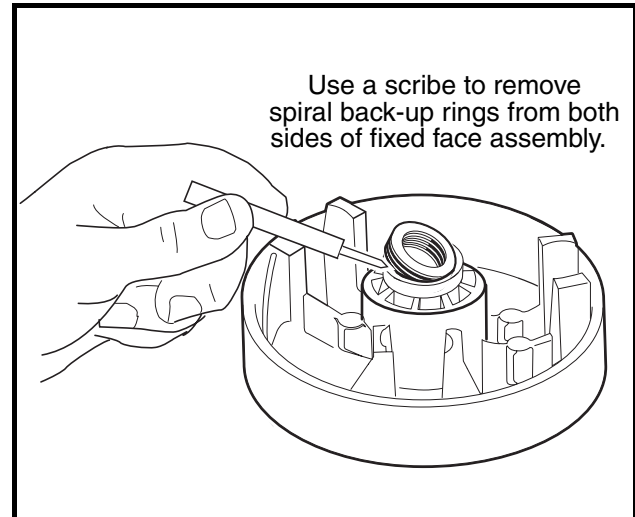

Figure 17-11 Spiral Back-up Rings
9. Use a scribe or small pick to remove the spiral backup rings (12) from each end of the bore in the fixed face assembly (**Figure 17-7, Page 17-8**). See also **Figure 17-11, Page 17-10**. Discard the rings.